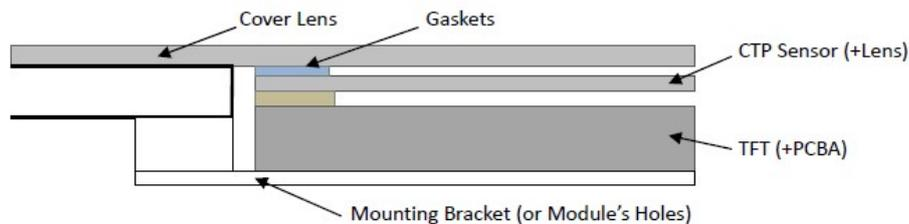

Figure 3
8.3 Additional Cover Lens Mounting (Figure 3)